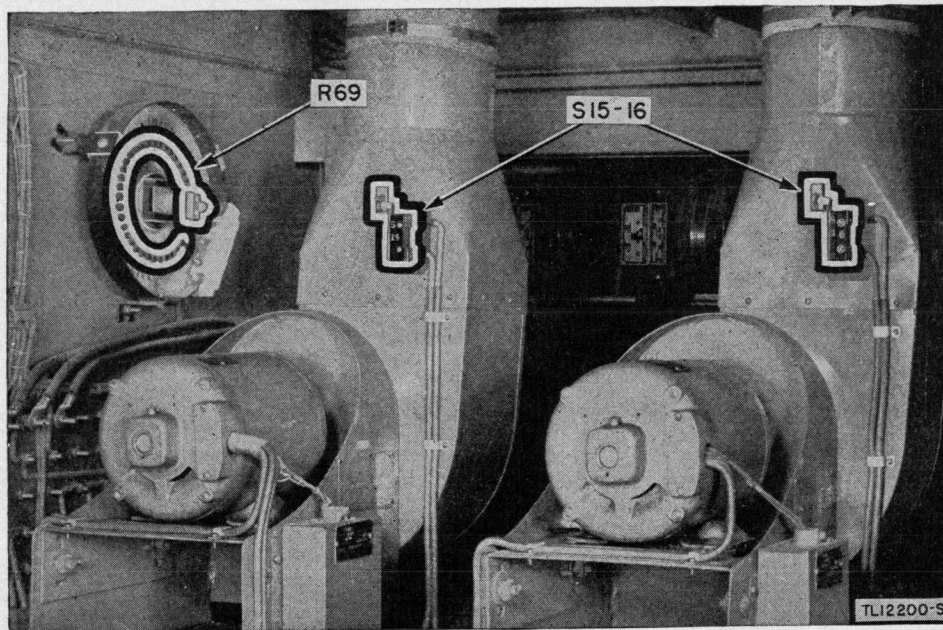

Figure 40. Blower unit.
- d. MASKING. (1) Mask the contacts and contact arm of rheostat R69. (See fig. 40.)
- (2) Mask blower microswitches S15 and S16. (See fig. 40.)